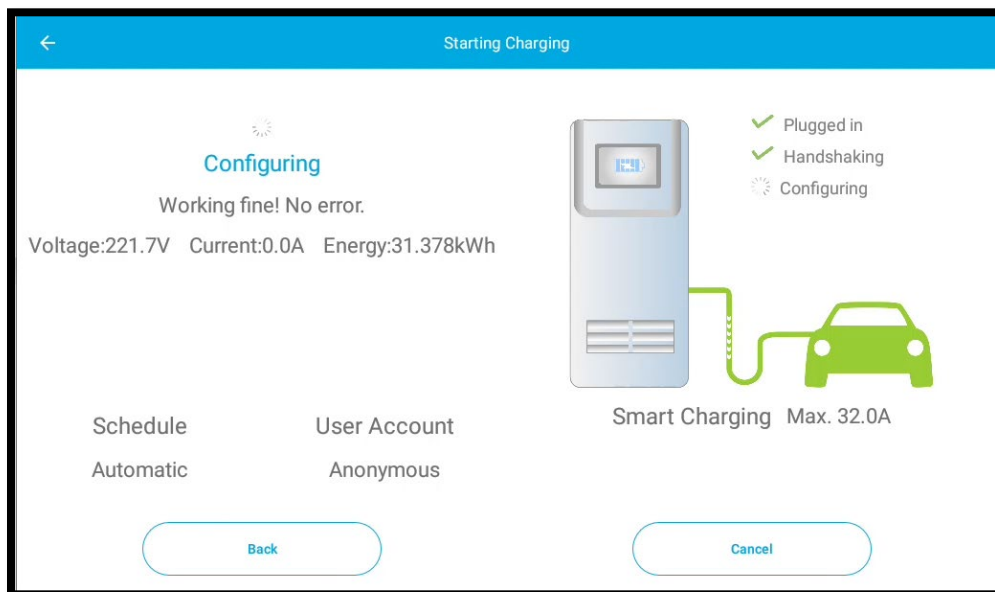

Figure 4.3 Start Charging Screen
- 3) After successful authorization, the system will proceed to **start charging and communication with the vehicle** screen (**Figure 4.3**). This screen indicates that the charging process is getting started.